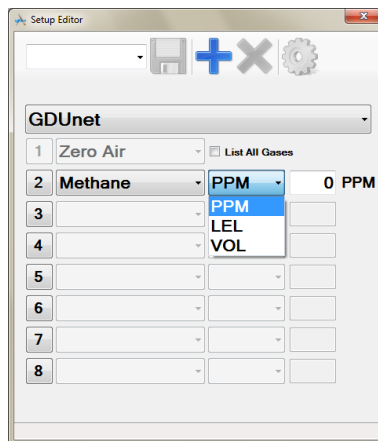

Fig. 6-7 Specify Gas Range
PPM, LEL and VOL options are then displayed, as illustrated in Fig. 6-7.
7. From list illustrated in Fig. 6-7, select 'PPM'.